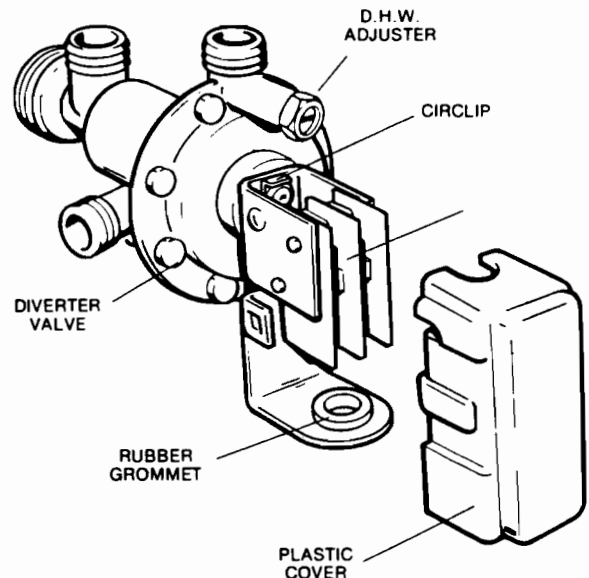

FIG. 42 DIVERTER VALVE
- c) To release the assembly: See Fig. 42